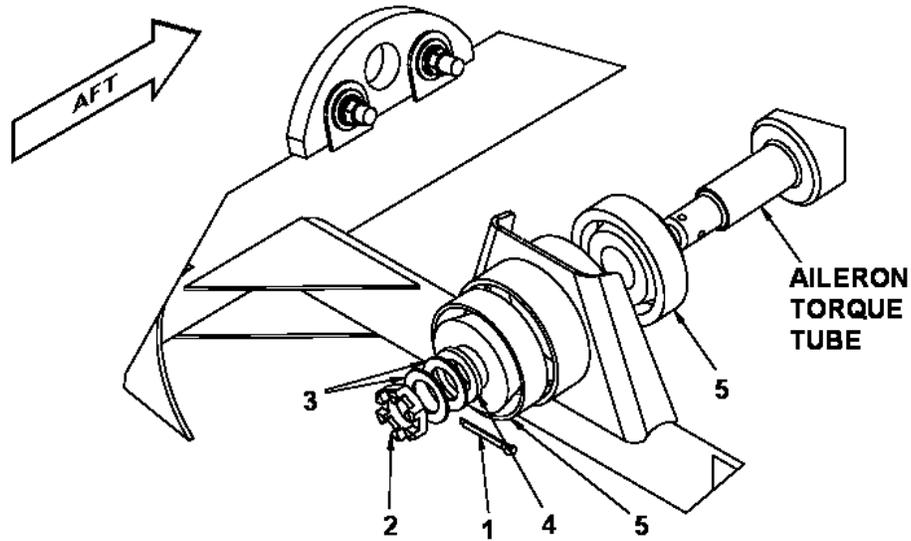

Figure 27-21 Aileron Torque Tube (Front)
6. See Figure 27-21. At forward end of aileron torque tube, remove split pin (1) and discard. Remove nut (2), washers (3 and 4).
2. At forward end of aileron torque tube, install bearings (4), in position and orientation on torque tube as noted in step 7 of the Aileron Torque Tube Removal procedure on page 30 of this chapter.
3. Install washers (3 and 4), and castellated nut (2). Torque the nut in accordance with Chapter 20 – *Standard Practices*. Install a new split pin (see Figure 27-21)